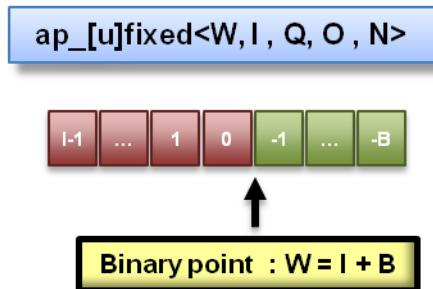

Figure 3-8: Arbitrary Precision Fixed Point Types
C++ functions can take advantage of the arbitrary precision fixed point types provided with Vivado HLS. Figure 3-8 summarizes the basic features of these fixed point types:
- The number of places above the decimal point I , also defines the number of decimal places in the word, $w-I$ (represented by B in Figure 3-8).
- The type of rounding or quantization (Q) can be selected.